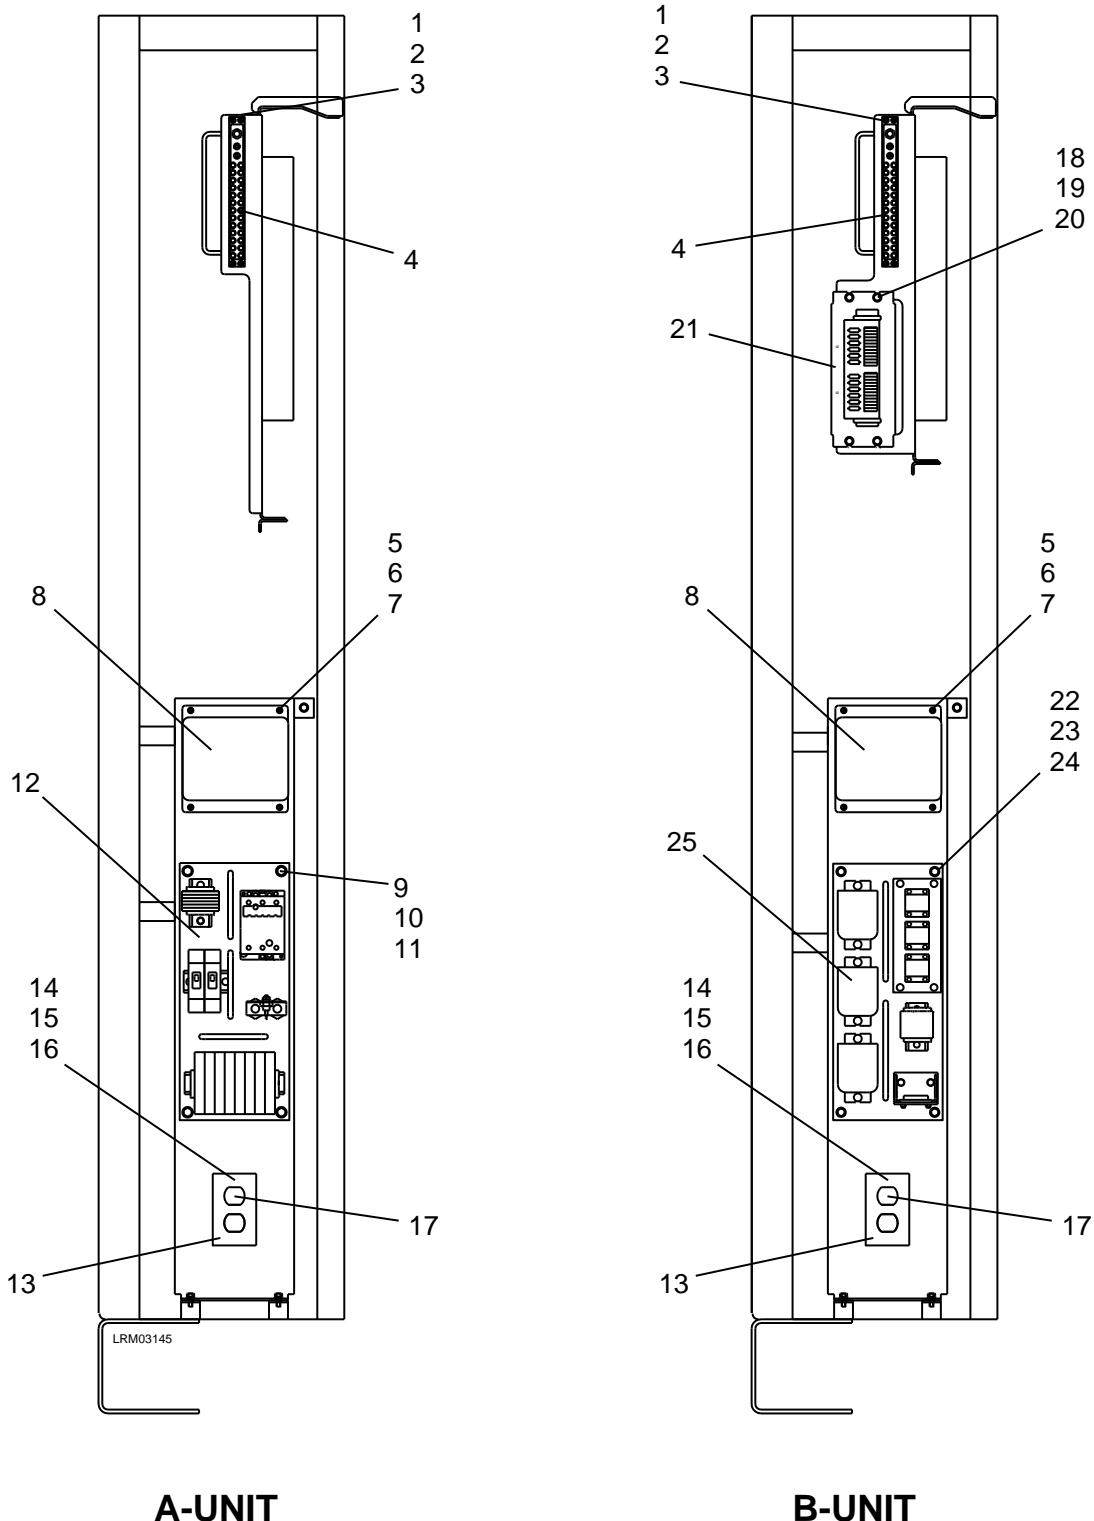

Figure 7-100: Side Articulation Electric Lockers, A and B Unit
2. Disconnect the WAGO electrical connections from the Terminal Board (4). See Figure 7-100.
3. Remove the four M5 x 35 screws (1), M5 lock washers (2) and M5 plain washers (3).
4. Remove the Terminal Board (4).
5. Repeat steps 1 through 3 for the remaining Terminal Board (4).
2. Disconnect the electrical connectors from the Ethernet Switch (8). See Figure 7-100.
3. Remove the M5 x 16 screws (5), M5 lock washers (6) and M5 plain washers (7).
4. Remove the Ethernet Switch (8).
5. Repeat steps 1 through 3 for the remaining Ethernet Switch (8).
2. Disconnect the WAGO electrical connections from the Track Brake Contactor Panel (12). See Figure 7-100.
3. Remove the four M8 x 25 bolts (9), M8 lock washers (10) and M8 plain washers (11).
4. Remove the Track Brake Contactor Panel (12).
2. Remove the cover (13). See Figure 7-100.
3. Disconnect the #10 electrical connections from the Convenience Outlet (17).
4. Remove the two M4 x 16 screws (14), M4 lock washers (15) and M4 plain washers (16).
5. Remove the Convenience Outlet (17).
6. Repeat steps 1 through 4 for the remaining Convenience Outlet (17).
2. Disconnect the WAGO electrical connections from the Electronic Control Unit Pull Down Resistor (21). See Figure 7-100.
3. Remove the four M6 x 16 bolts (18), M6 lock washers (19) and M6 plain washers (20).
4. Remove the Electronic Control Unit Pull Down Resistor (21).
2. Disconnect the electrical connector from the ARP1B Relay Panel (25). See Figure 7-100.
3. Remove the four M8 x 25 bolts (22), M8 lock washers (23) and M8 plain washers (24).
4. Remove the ARP1B Relay Panel (25).